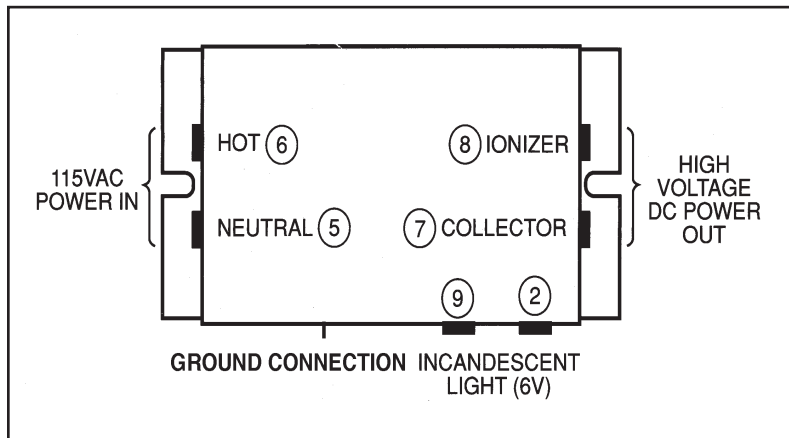

Figure 5
5. If the light remains out with both the ionizer and cell removed, remove the side access panel and check out the high voltage power pack. See Figure 5.